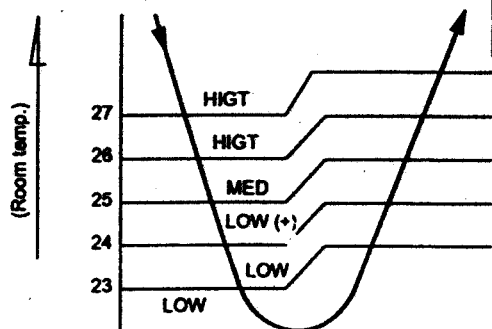

Fig. 8-21 Auto setting of air volume
- (1) Once the setting is made, the operation mode is memorized in the microcomputer so that the same operation can be effected thereafter simply by pushing the START/STOP button.
- (2) When the FAN SPEED button is set to the AUTO position, the indoor fan motor operates as shown in Fig. 8-21. When the FAN SPEED button is set to LOW, MED, or HIGH, the motor operates with a constant air volume as listed in Table 8-2. Power relay RY7 is turned off.